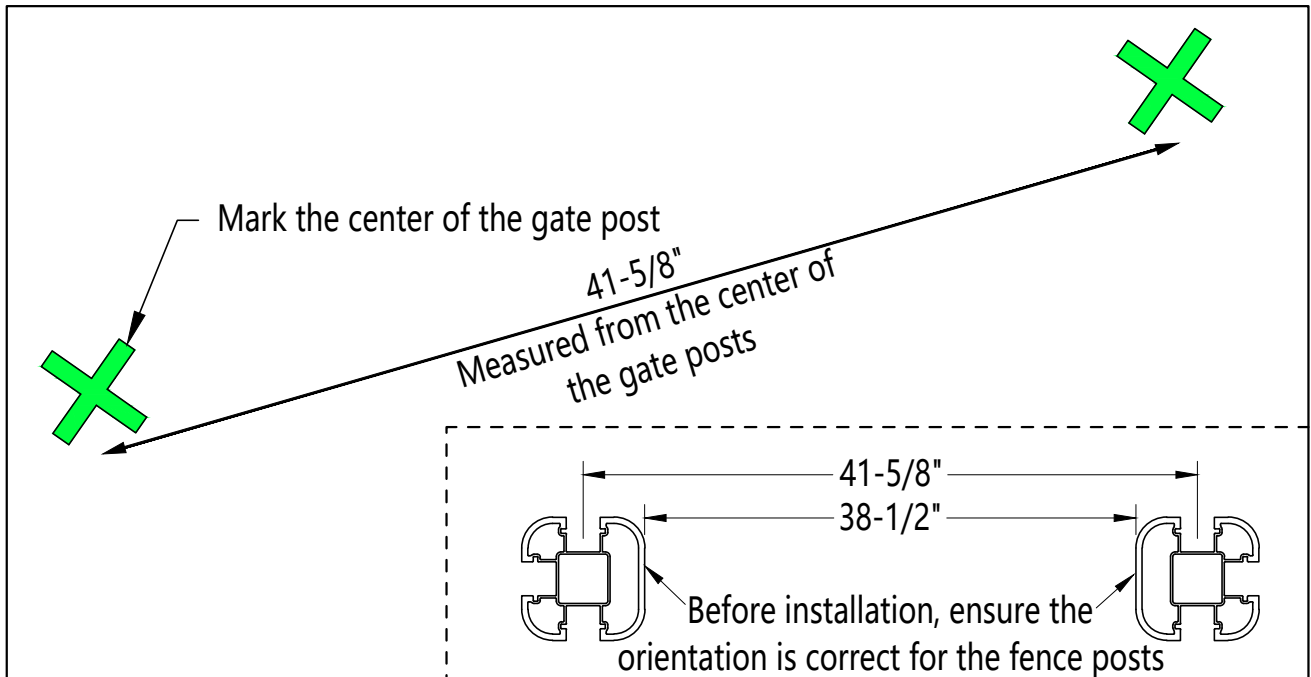

Figure 2
- 2 Measure and position the gate posts on the ground at a distance of $41\frac{5}{8}$ " on center. Draw a positioning mark for the fixed center positions, as shown in Figure 2.